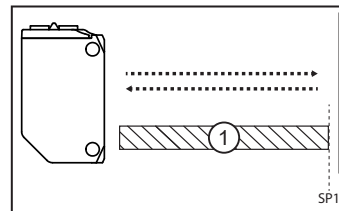

Fig. 7: Diffuse reflection sensor directed towards background with [SP1]
- ▶ The switch point [SP1] is just in front of the background (fig. 7).